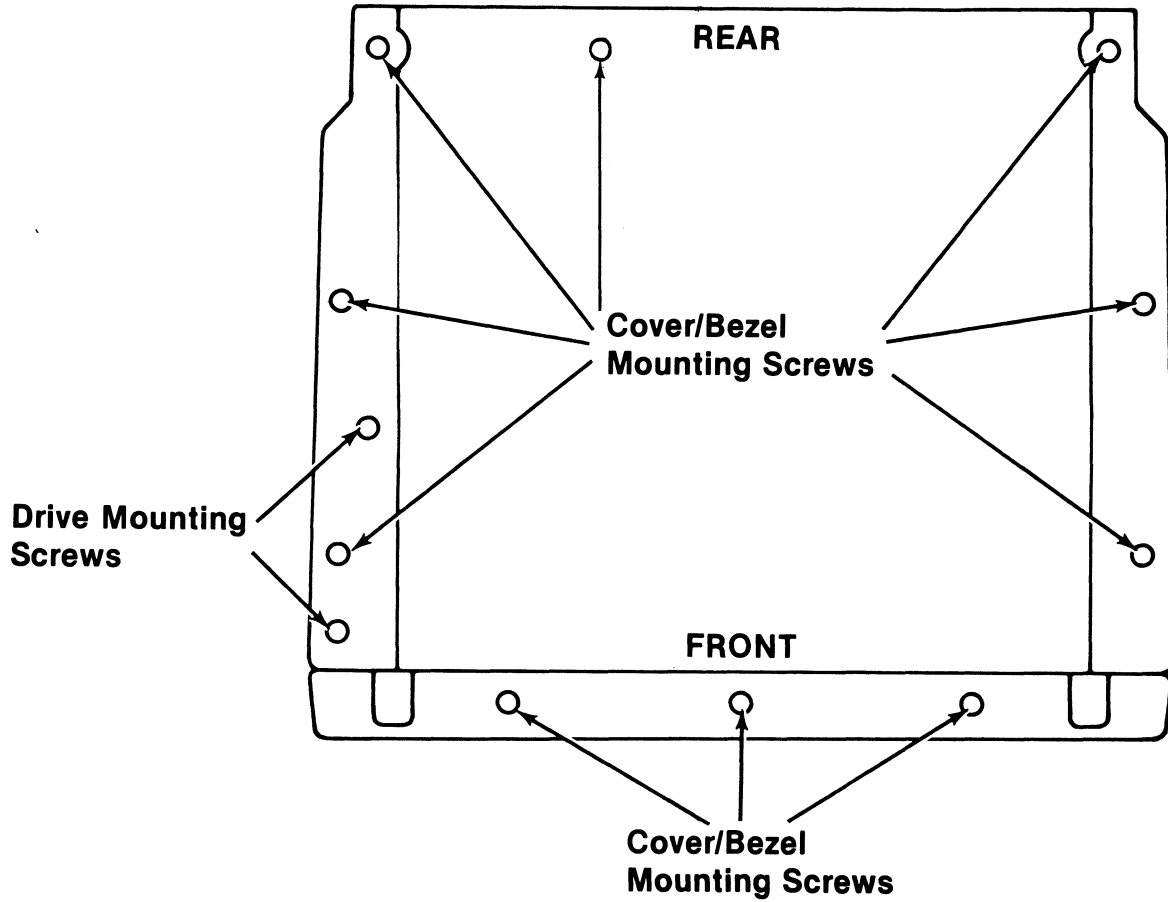

Figure 3-1. Cover Assembly and Bezel Assembly Mounting Screws
4. Remove seven (7) screws that attach the Top Cover Assembly to the Base Assembly. There should be three screws on the right side, three screws on the left, and one screw at the rear. See Figure 3-1, which shows the location of the screws.
1. Loosen the three (3) screws at the front of the unit that attach the Bezel/CRT Assembly to the Base Assembly. See Figure 3-1, which shows the location of these screws.
2. Remove the two (2) screws, at the top of the Drive Support Structure, which attach the Bezel/CRT Assembly support bar to the Drive Support Structure.
3. Remove the two (2) screws, at the left of the unit, which attach the CRT Monitor PCB Bracket to the Base Assembly.